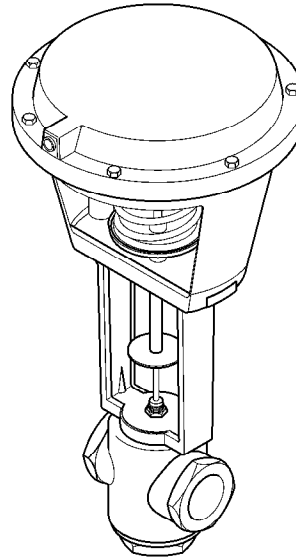

Figure-7 Typical MK-68X1 Series Actuator Using the AV-430 Valve Linkage.
- b. Secure the actuator, using the two bolts provided. For a view of the completed assembly, see Figure-7.